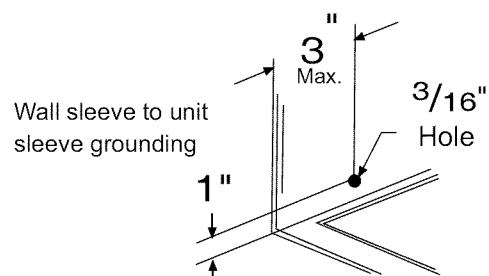

Fig. 2
3. If not existing, drill a 3/16" clearance hole for grounding screw through left side of wall sleeve, in a clear area about 3 inches maximum back from front edge of sleeve, using grounding screw and toothed washer. Pull loose end of ground wire out front of sleeve, and temporarily bend it down and around lower edge of sleeve (Fig. 2). This ground wire will later be attached to frame of air conditioner once it is installed.